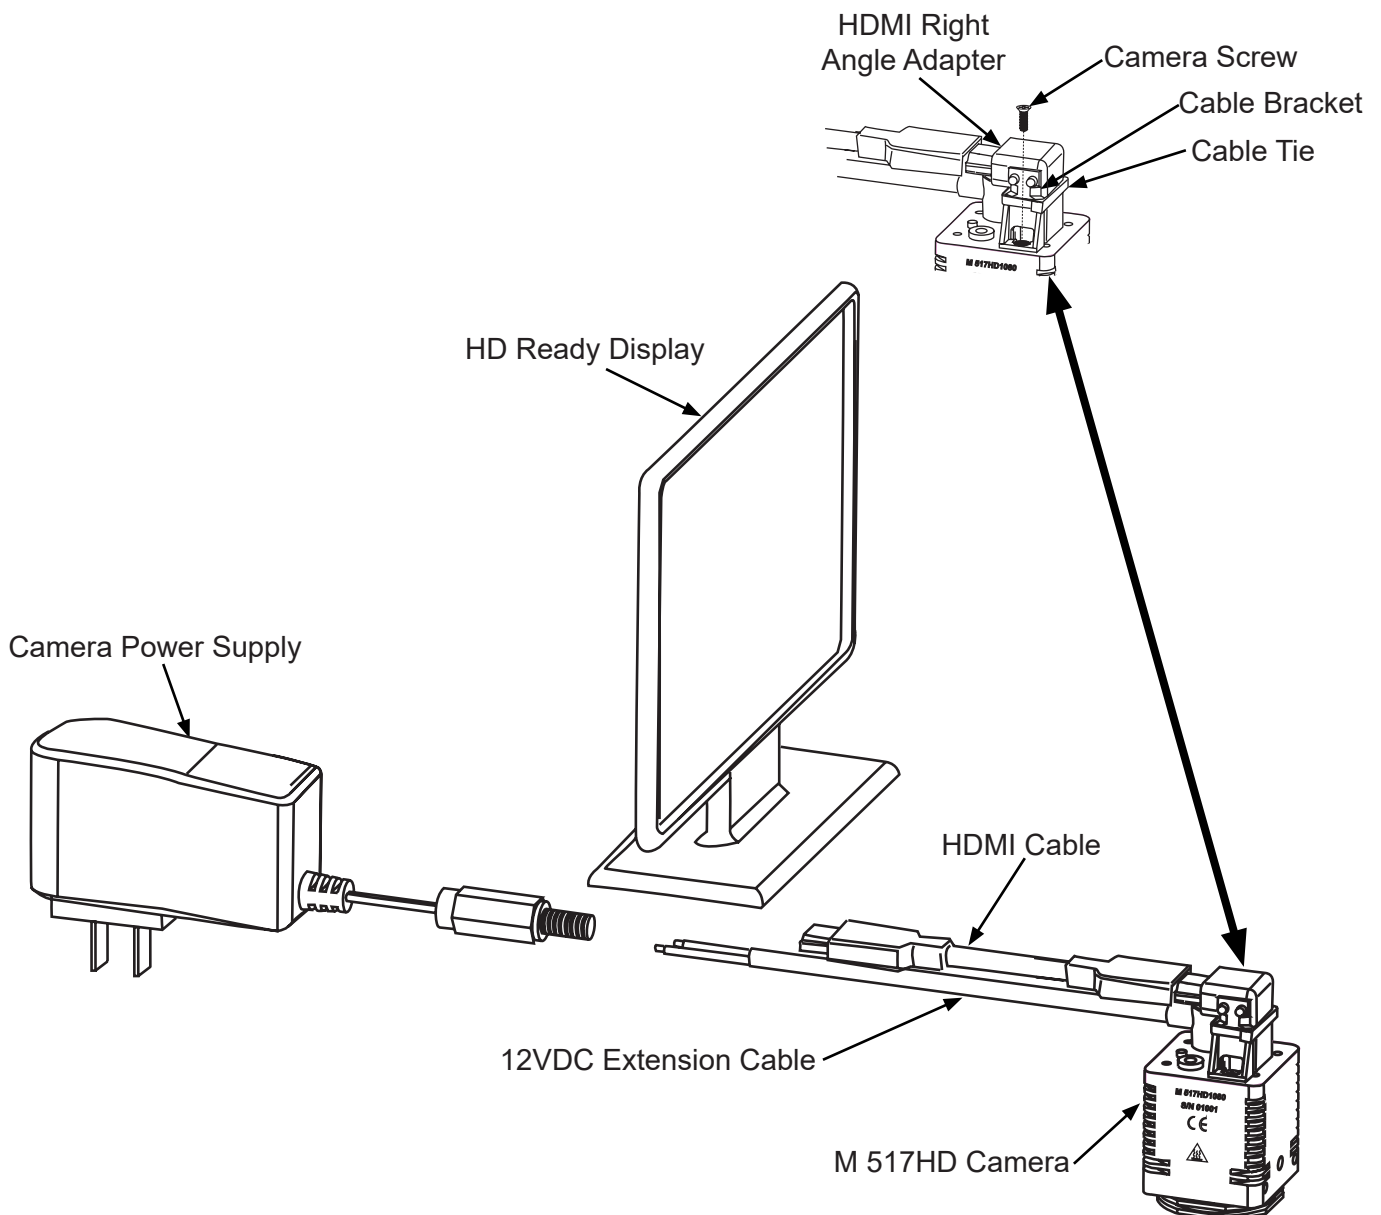

Figure 3-1. Typical Wire Configuration
3. Route and connect power and video cables. Typical wire configuration is illustrated in Figure 3-1. Route cables through arms in such a way that they are not likely to be pinched or stretched or otherwise damaged. Microscope arm covers may have to be removed to route cables.